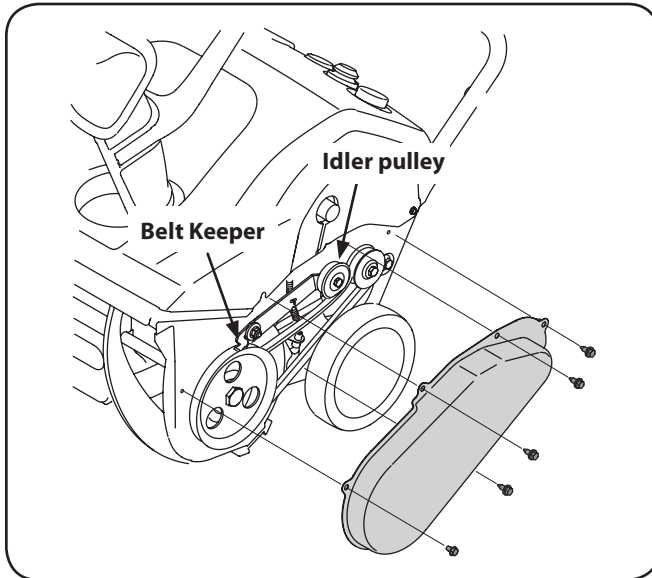

Figure 7-1
1. Remove the belt cover by removing five hex screws. See Fig. 7-1.
**NOTE:** Push down on the idler pulley to release the belt from under the belt keeper. See Fig. 7-1.